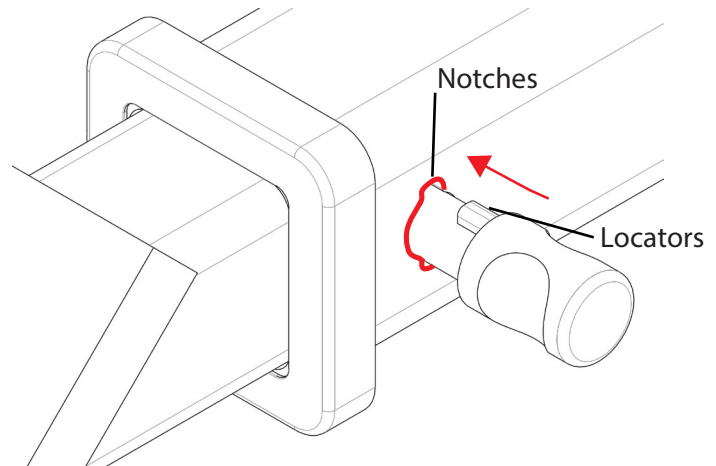

Fig 3. Silent Anti-Rattle Hitch Pin orientation
- e. Remove 2 torx screws on top of the bumper, refer figure 3.
Figs 3 remove torx screws
Insert HITCH PIN through hole in HITCHBOX and hole in TBM SHANK; ensure the LOCATORS are inserted into the NOTCHES in the HITCHBOX (Fig. 3).